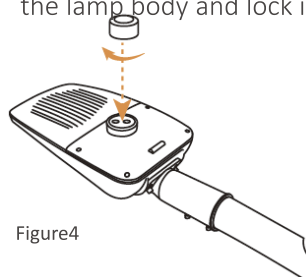

Figure 4
④ Install the Photocontrol, as shown in Figure 4.